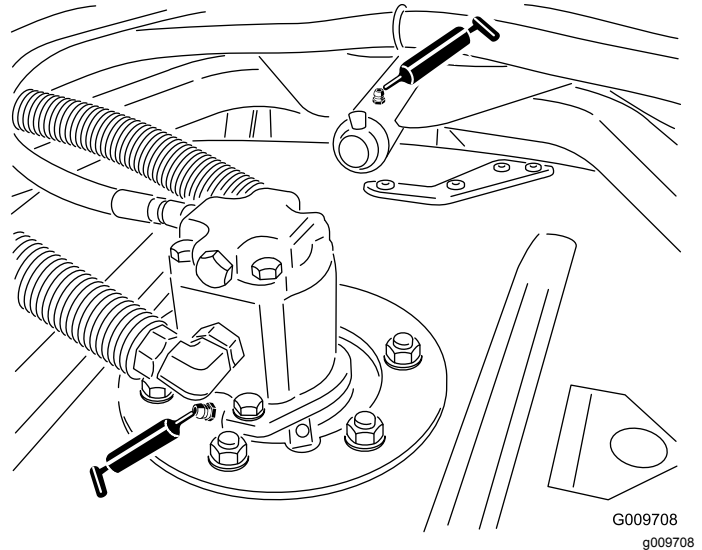

Figure 30
- Cutting-unit spindle-shaft bearings (2 per cutting unit) (Figure 30)
- Cutting-unit carrier-arm bushings (1 per cutting unit) (Figure 30)